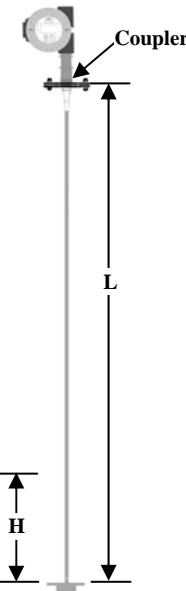

Figure 4.5
Example: Probe length (L) is 360" from the target to the coupler. The product dielectric is 1.4. Desired 4 mA point is 12" above the target (H=12"). Desired 20 mA point is 24" below the coupler (H=336"). See Figure 4.5.
Example: Using the same conditions in Step 6, we establish a level 24" from the top of the probe/cable ($H = 336"$). The readout on the MT2000 indicates 421.56". Calculate DC as follows (Refer to Figure 4-5):